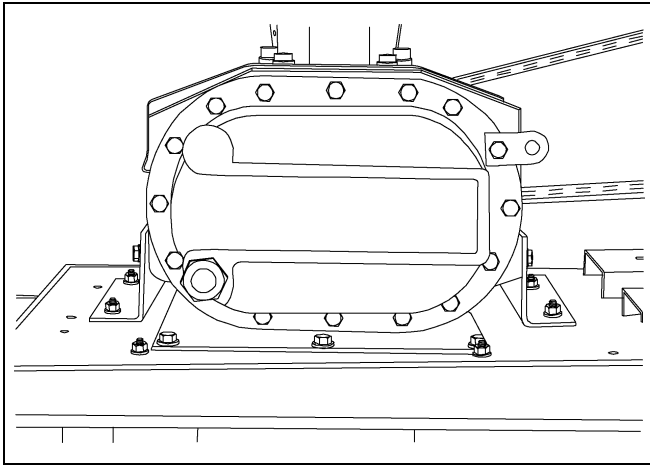

Figure 7H
7. Check the oil level of the blower. The oil level should be at the center of the sight glass. Add part #MS5389, if required, through the breather plug on top of the blower case. (See Figure 7H.) See the maintenance schedule on Page 12 for the frequency of oil changes.